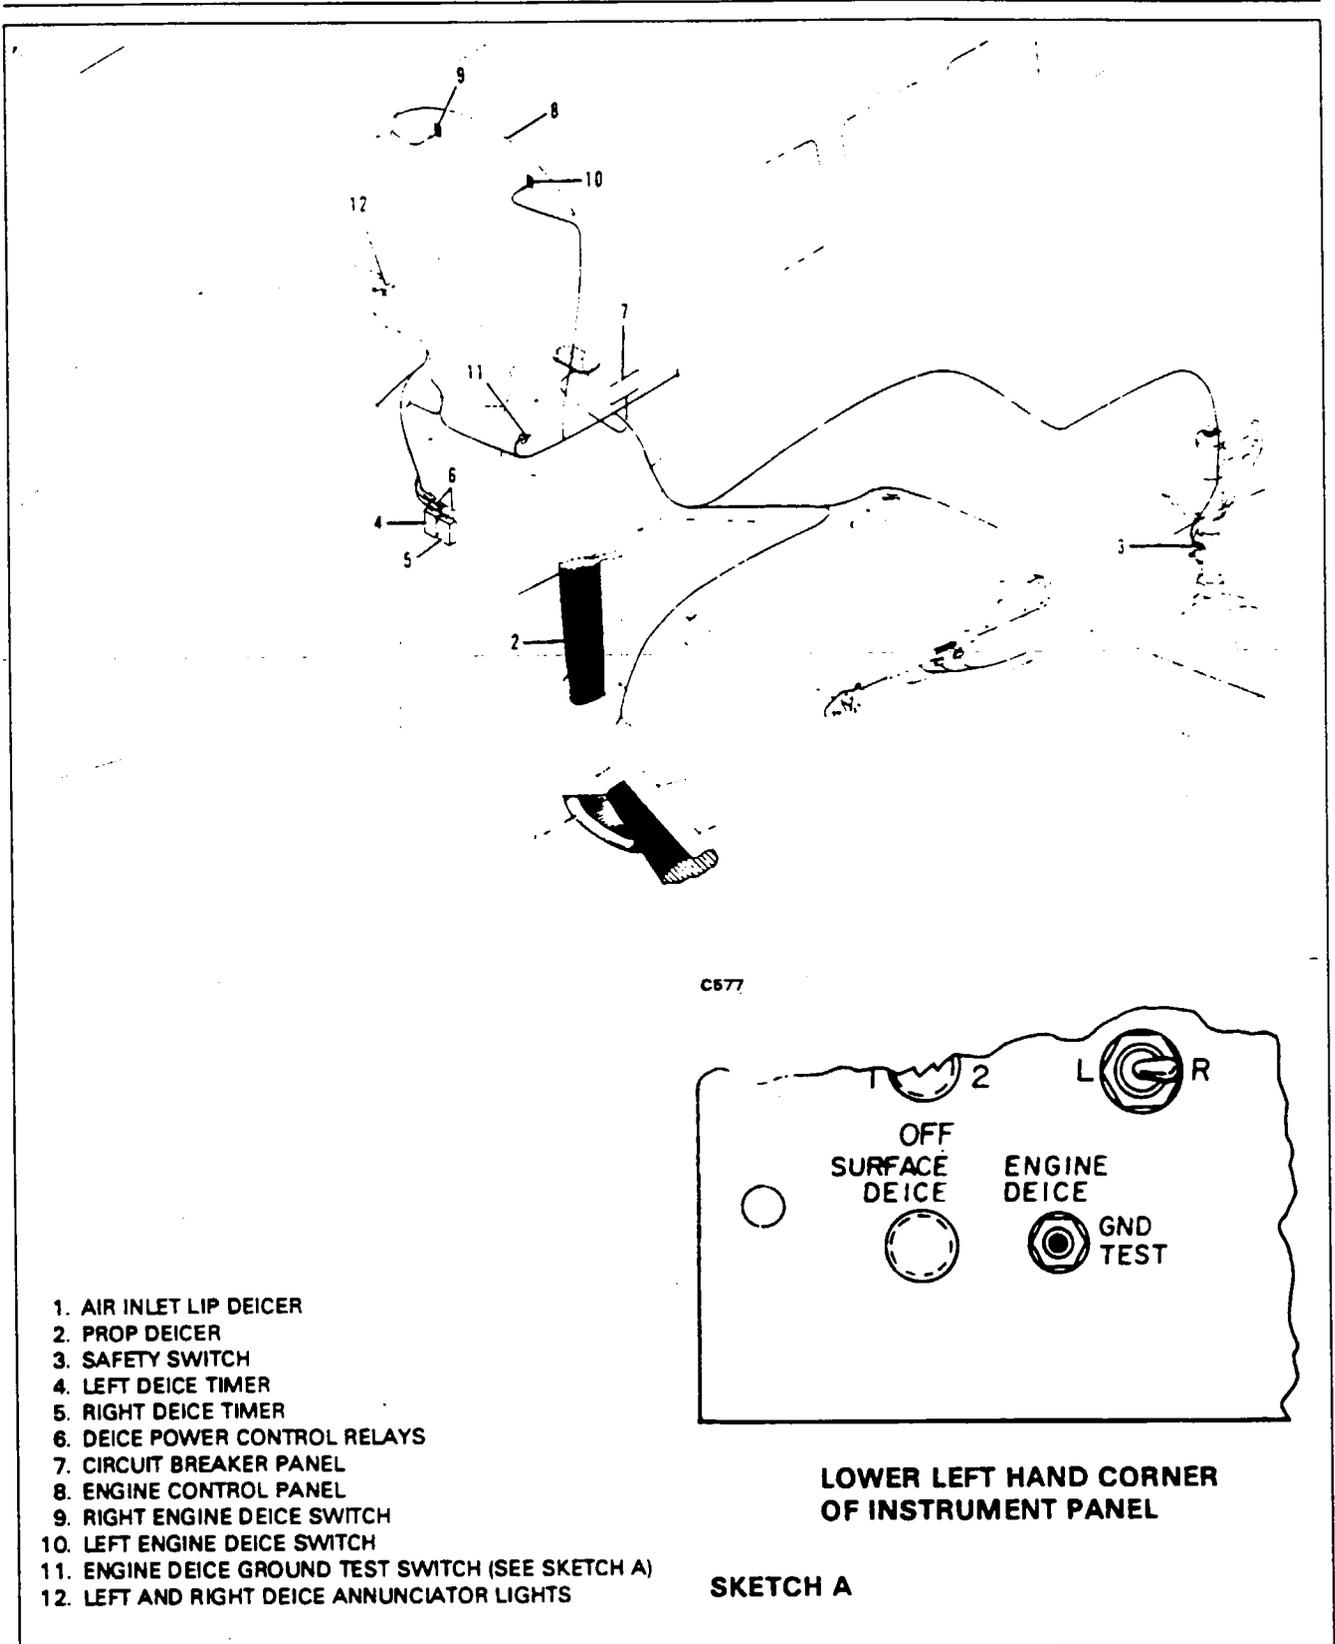

Figure 30-18. Electric Propeller Deicer System Installation
**DESCRIPTION AND PRINCIPLES OF OPERATION.** (Refer to Figure 30-18.)